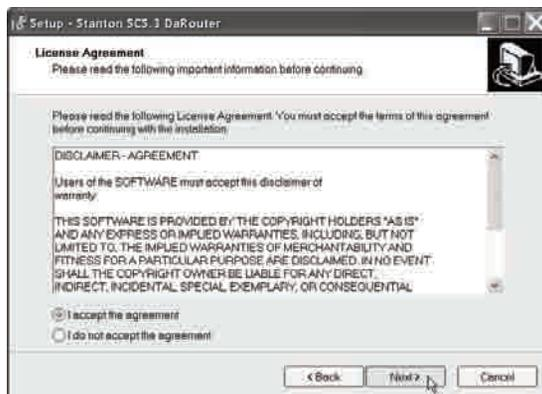

Figure 4.5
- Select *I accept the agreement* and click **Next**. (Figure 4.5)